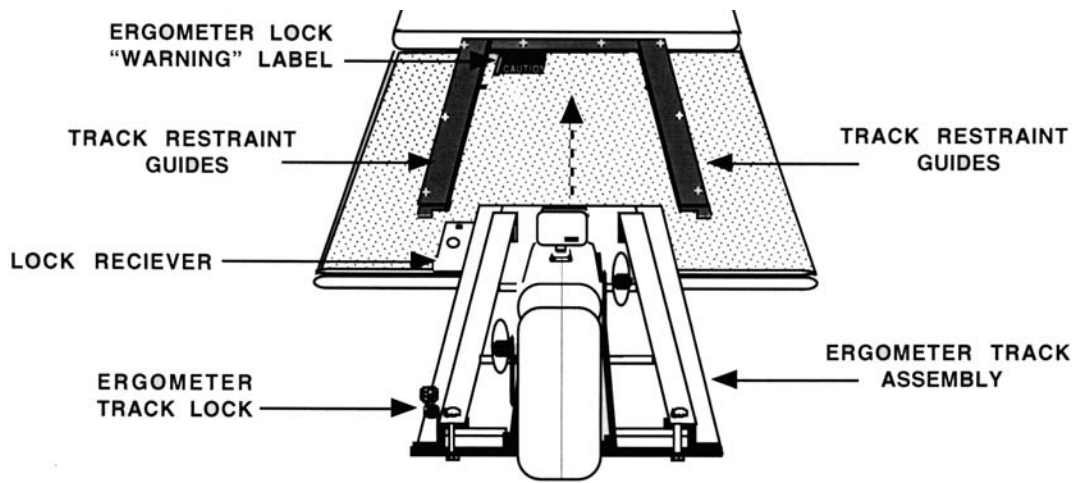

Figure 31
| 2 | Using two people , rest the ergometer track assembly on the foot end of the bed, in line with the track restraint guides. (see Figure 31) |
- 4 Momentarily lift the handle of the ergometer slide lock while pushing the entire track assembly further into the track restraint guides until the red “warning” label is fully covered by the track and the ergometer slide lock is fully engaged in the track lock receiver. (See Figures 31 & 32)